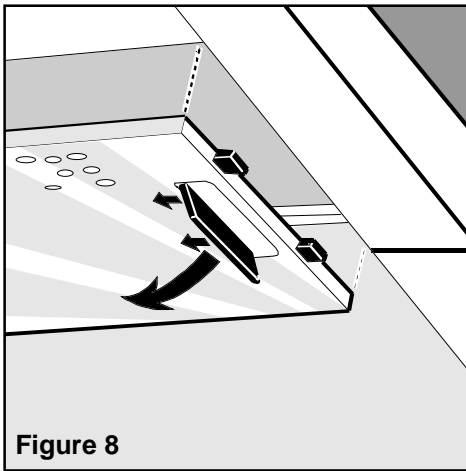

Figure 8
- Remove j-box cover as shown in Figure 8.
- Connect black wire from service panel to black or red in junction box, white to white and green to green-yellow. See Figure 8.
For box adjustment, loosen screws **M**, slide the square plates **P** as necessary, and tighten screws **M** (Figure 8).
- Push simultaneously the two grease filter handles first upwards, then pull towards the center and extract the filters Figure 8.